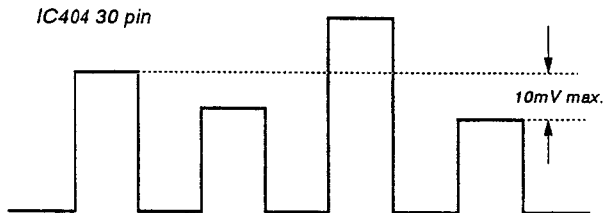

Fig. 16
- 4) Using **[CHROMA NTSC 358 NOR]**, adjust so that the tops of the waveform line up as in the diagram below. (Fig. 16)
- 2) Adjust **[CHROMA NTSC 358 ACC OFF]** in the same manner as 8-4 above. (Fig. 16)